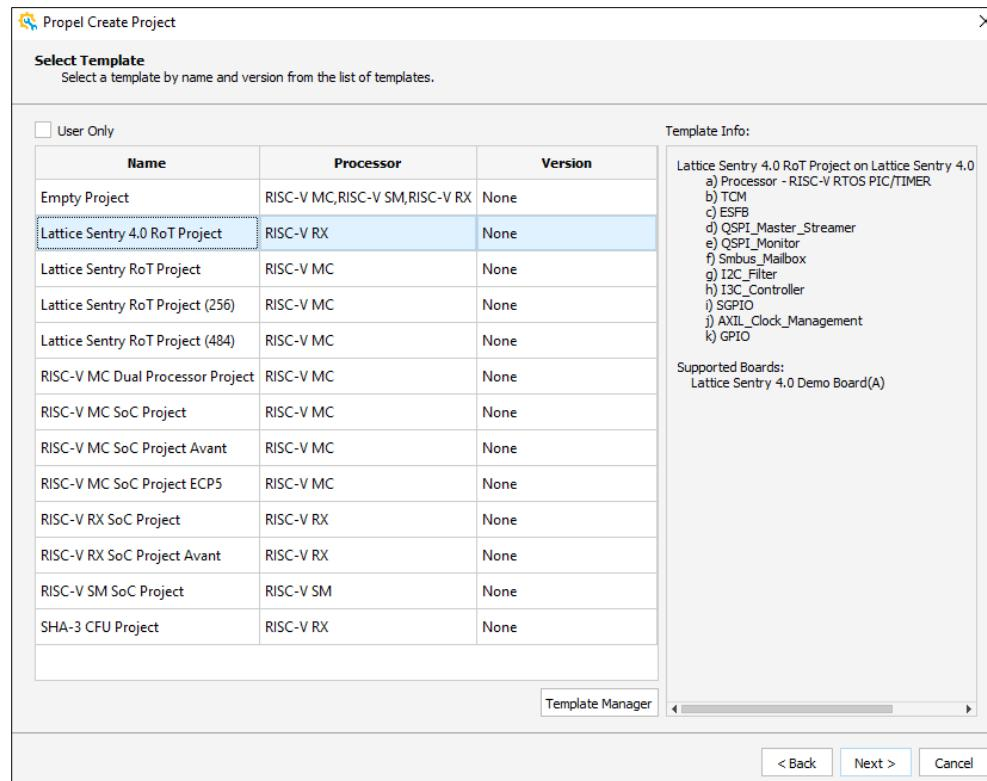

Figure 4.3. Create a Lattice Sentry 4.0 RoT Project
5. Select **Lattice Sentry 4.0 RoT Project**, then click **Next** (Figure 4.3).